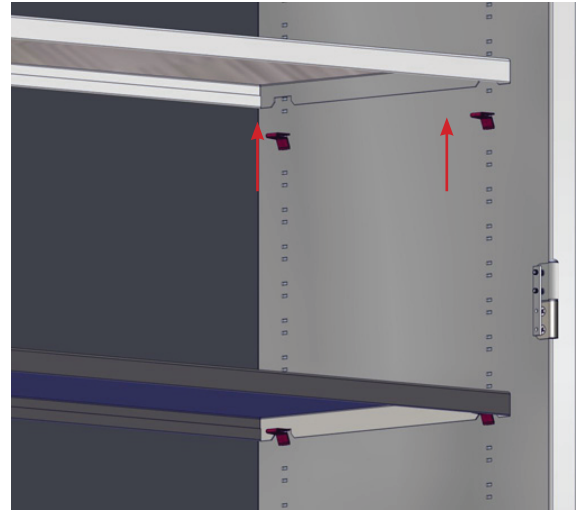

Fig. 18: Remove Shelf
2. Remove the shelf and determine its new position (Fig. 18).